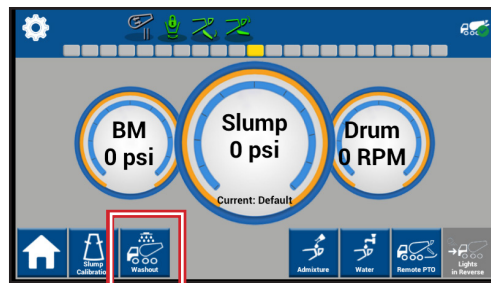

Figure 120
3. Select “Washout” (Figure 120).